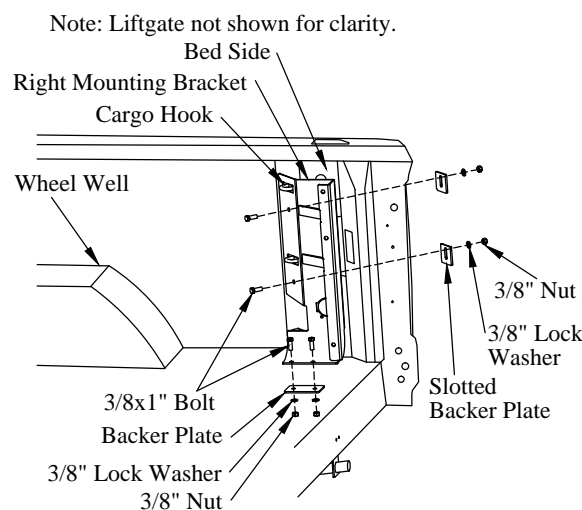

Figure 14: Mounting bracket hardware.
9. **Drill** two (2) 3/8" holes into the truck bed floor using the holes in the bracket as a guide (Figure 14).
10. **Fasten** each bracket to the truck bed floor using the supplied (Figure 14):
- (1) backer plate, (2) lock washers, and (2) hex nuts on the under-side.
11. **Drill** two (2) 3/8" holes into the truck bed side near the cargo hooks, using the holes in the bracket as a guide (Figure 14).
12. **Fasten** each bracket to the truck bed side using the supplied (Figure 14):